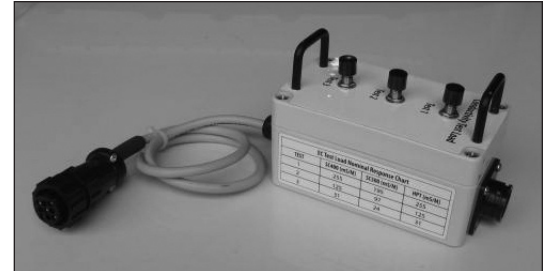

Figure 1: The 3-Position EC Test Load (P/N 37785) is used to perform QA testing of Wenner array soil EC logging systems.
The 3-Position Electrical Conductivity (EC) Test Load is an important tool for performing quality assurance (QA) testing of the Wenner array soil EC logging system prior to placing the probe in the ground to collect EC data. The EC Test Load (Fig. 1) checks the entire system, from signal conditioning to probe continuity and isolation to voltage and current measurement.